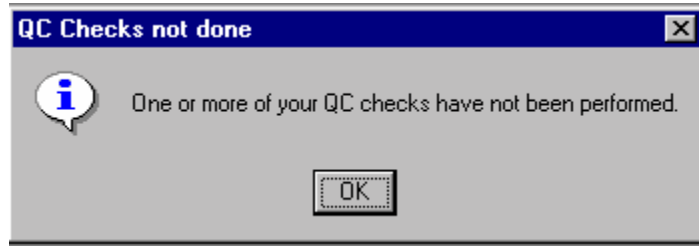

Figure 6-16. Quality control reminder message box
- When you log on to the application before the quality control checks are performed, the system displays a message: 'One or more of your QC checks have not been performed.' See Figure 6-16.